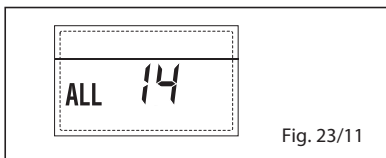

Fig. 23/11
- "ALL 15" FAN ERROR (fig. 23/12)